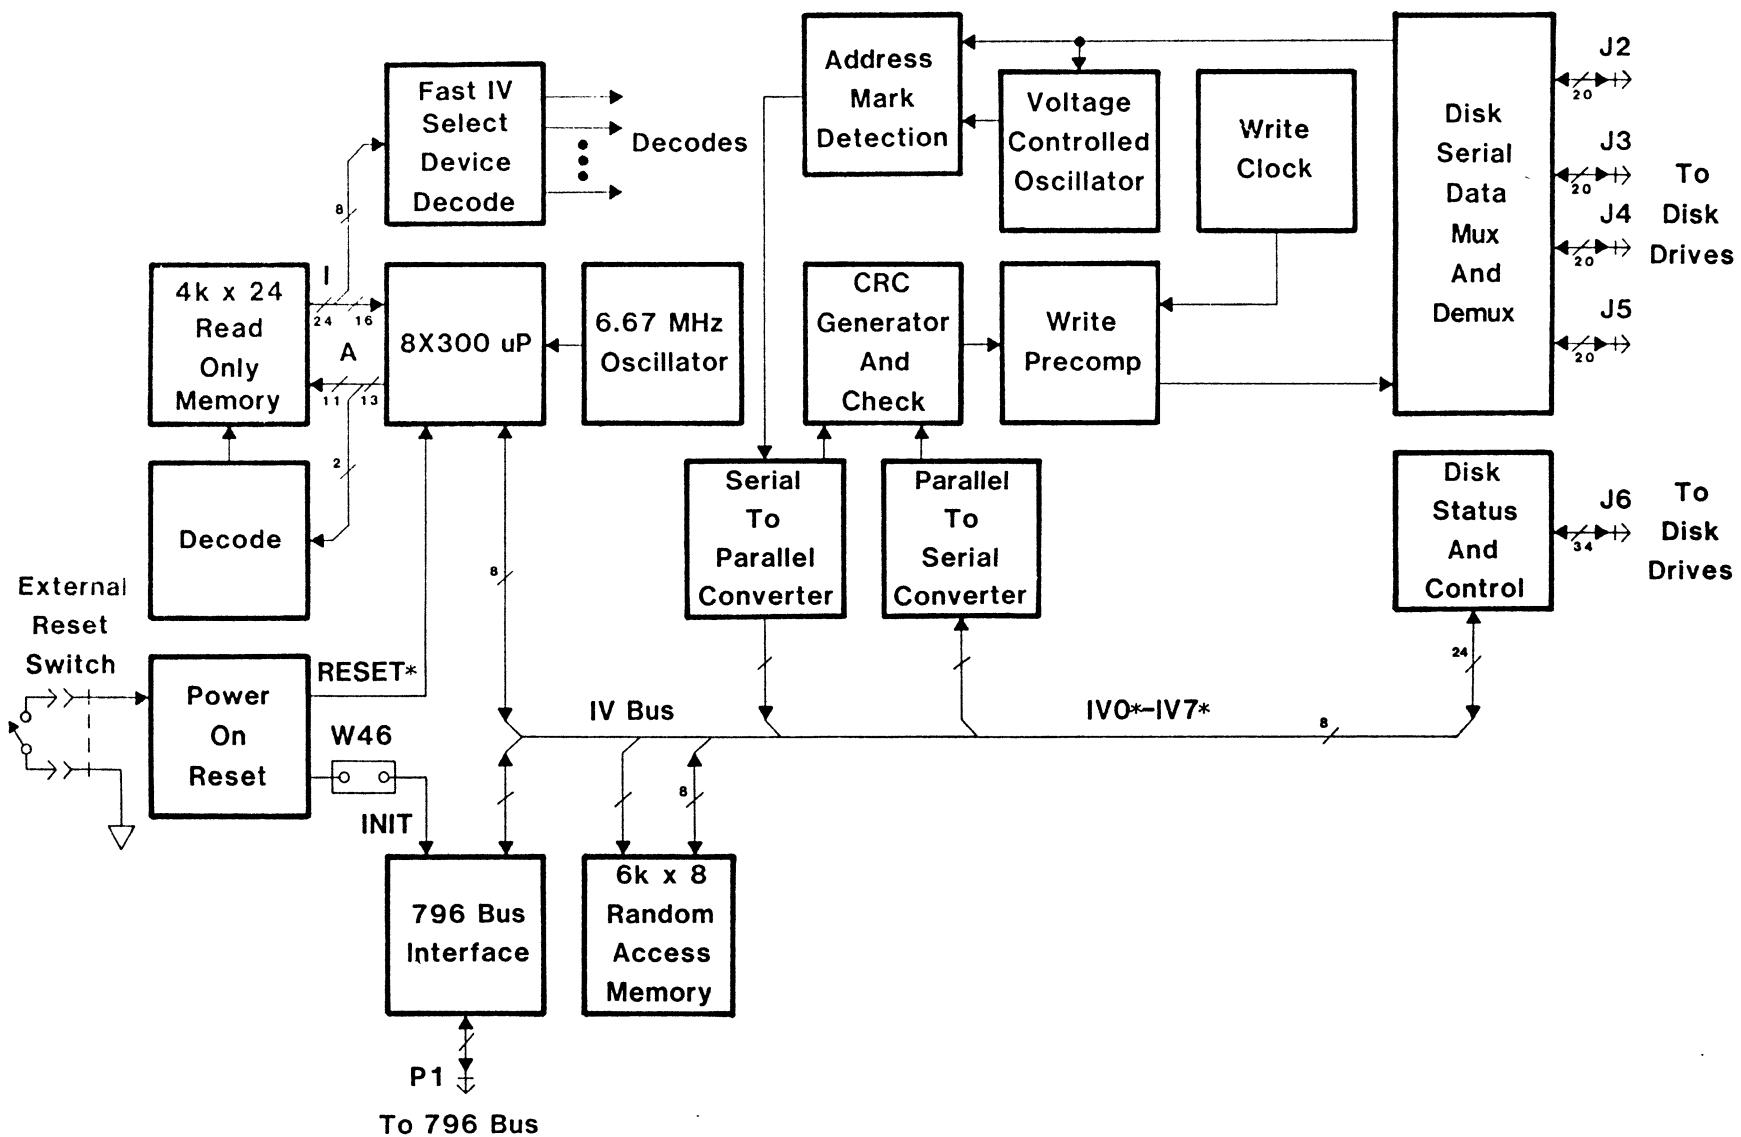
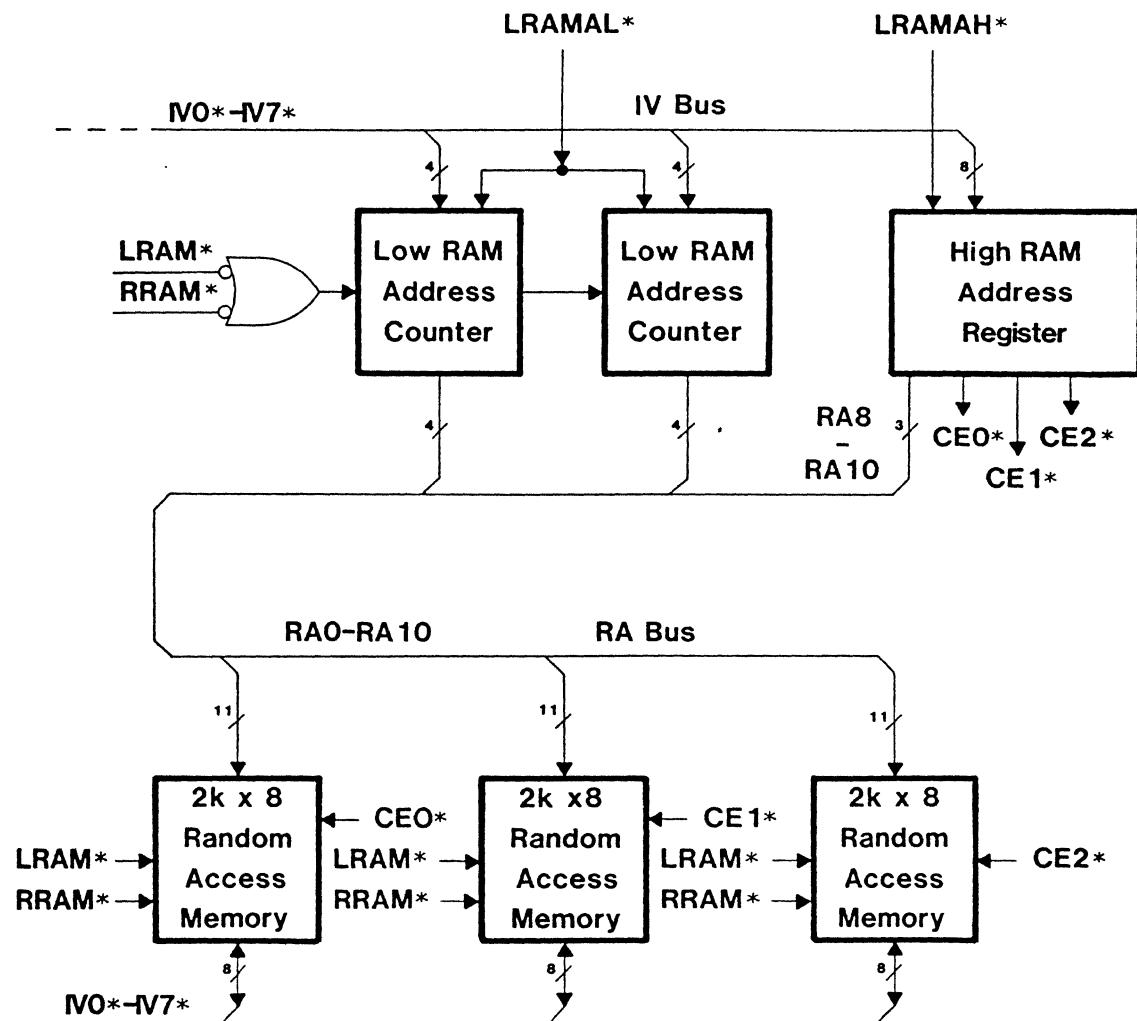

Figure 3-1 – Winchester Disk Controller Block Diagram
Figure 3-2 – Memory Block Diagram
3.05 Figure 3-1 illustrates the principal sections of the WDC in block diagram. This figure and Figures 3-2 through 3-6 should be used in conjunction with the WDC logic diagram for the descriptions which follow.
3.17 Refer to Figure 3-2 for the description which follows. The contents of the *6k x 8 Random Access Memory* is exchanged as data to the IV Bus, IV0*-IV7*, with one of two instructions: